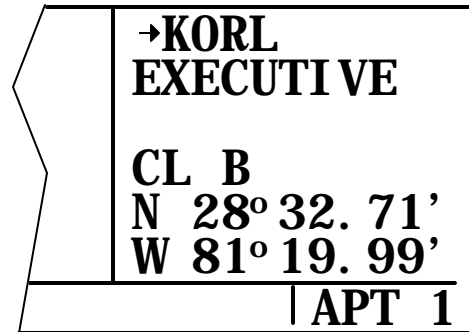

Figure 3D-19. APT 1 Page
b. **Airport 2 Page.** Refer to Figure 3D-20.
(2) The city where the airport is located.
(3) The state if the airport is located in the United States, the province if in Canada, or the country outside of the United States and Canada.